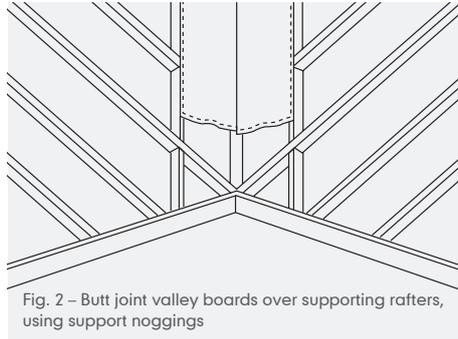

Fig. 2 – Butt joint valley boards over supporting rafters, using support noggins
- 2 Continuous overlaid boards should be minimum of 6mm thick plywood and only butt jointed over a supporting rafter (Fig. 2).